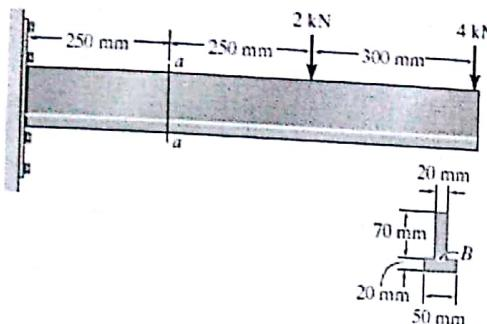

Fig. 4
- 4.** Determine the shear stress at point B on the web of the cantilevered strut at section a-a. Determine the maximum shear stress acting at section a-a of the cantilevered strut. (Fig. 4)